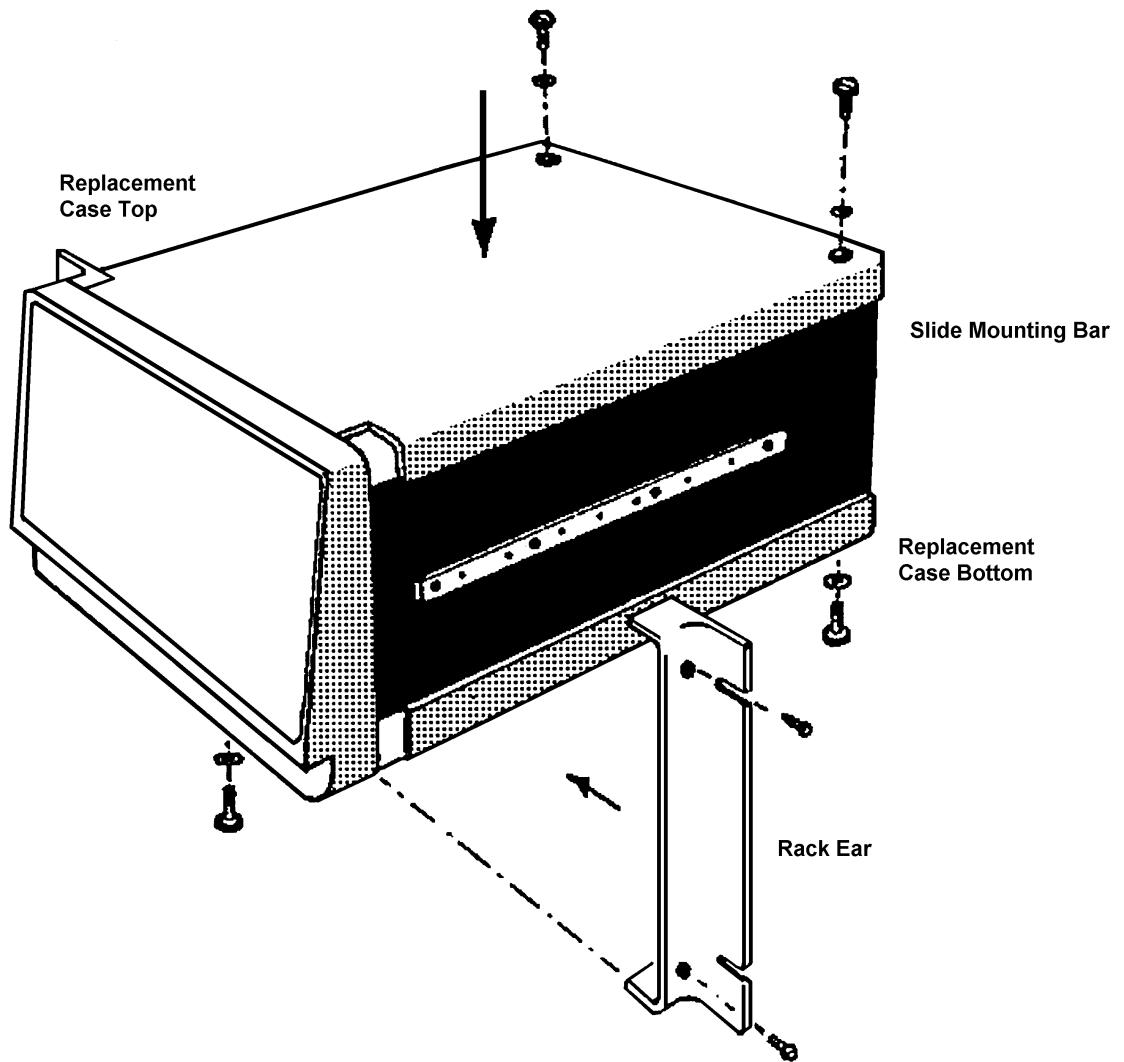

Figure 2.10 - Fitting rack ears, slide mounting bar and replacement cases
3. Fit the following items to the unit, as shown in Fig. 2.10 overleaf: